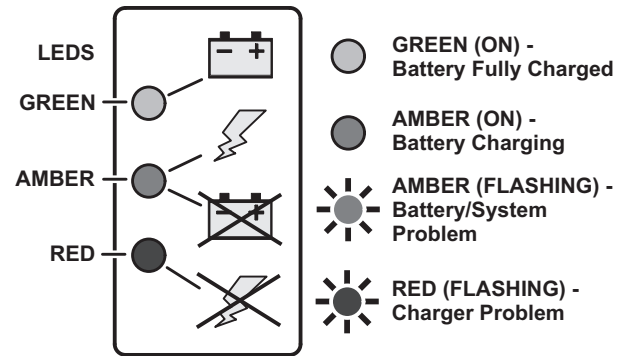

Figure 3-12. Charger Decal LED Indicators
3. When powered up the charger will go through a short LED indicator self-test. The battery charger LED indicators on the charger (Figure 3-12.), will flash in sequence for two seconds. These LED indicators can be viewed
If a fault has occurred during battery charging, the (AMBER or RED) LED on the charger LED indicator (See Figure 3-12.) will flash corresponding to the fault which occurred. Refer to Table 3-1 following for the charger LED flash codes and their meaning.